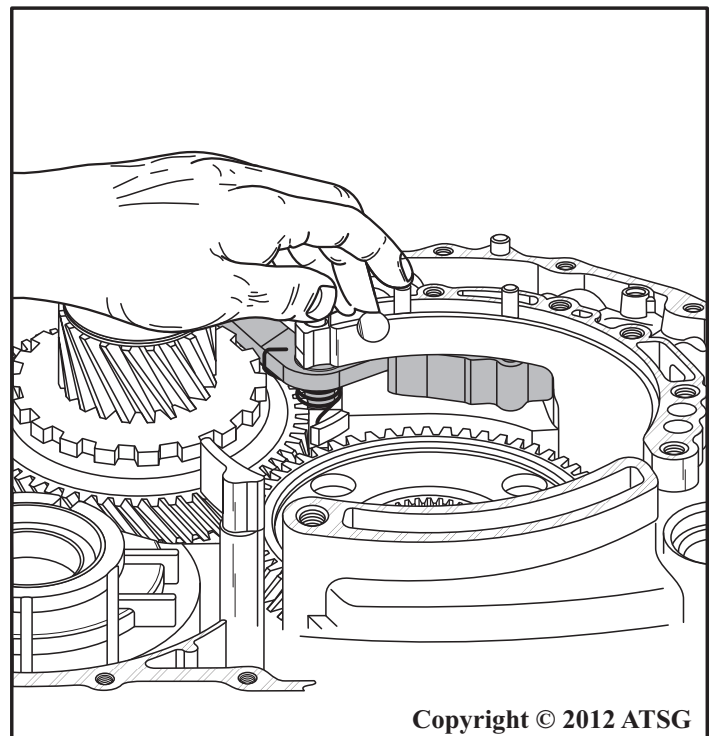

Figure 285
89. Push the retaining pins down until fully seated by *hand only*, as shown in Figure 285.